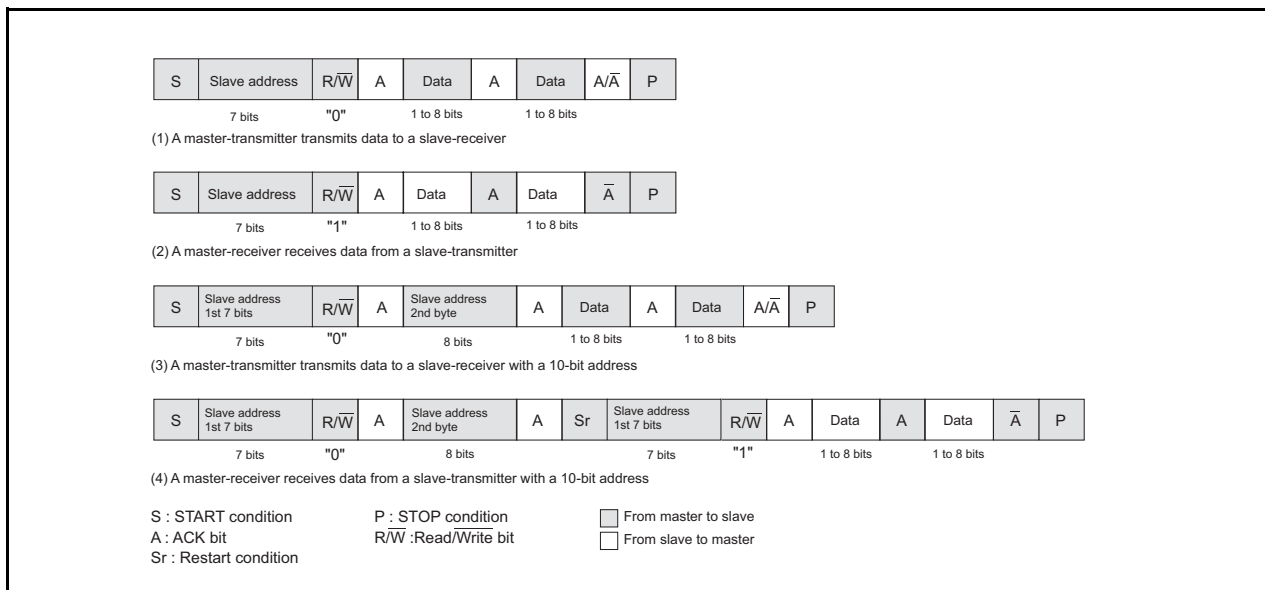

Figure 11.13 Address data communication format
To meet the 7-bit addressing format, set the 10BIT SAD bit of the I²C control register to “0.” The first 7-bit address data transmitted from the master is compared with the high-order 7-bit slave address stored in the I²C address register. At the time of this comparison, address comparison of the RBW bit of the I²C address register is not made. For the data transmission format when the 7-bit addressing format is selected, refer to Figure 11.13 (1) and (2).
When the first-byte address data matches the slave address, the AAS bit of the I²C status register is set to “1.” After the second-byte address data is stored into the I²C data shift register, make an address comparison between the second-byte data and the slave address by software. When the address data of the 2nd bytes matches the slave address, set the RBW bit of the I²C address register to “1” by software. This processing can match the 7-bit slave address and R/\overline{W} data, which are received after a RESTART condition is detected, with the value of the I²C address register. For the data transmission format when the 10-bit addressing format is selected, refer to Figure 11.13, (3) and (4).
(11) Example of Master Transmission